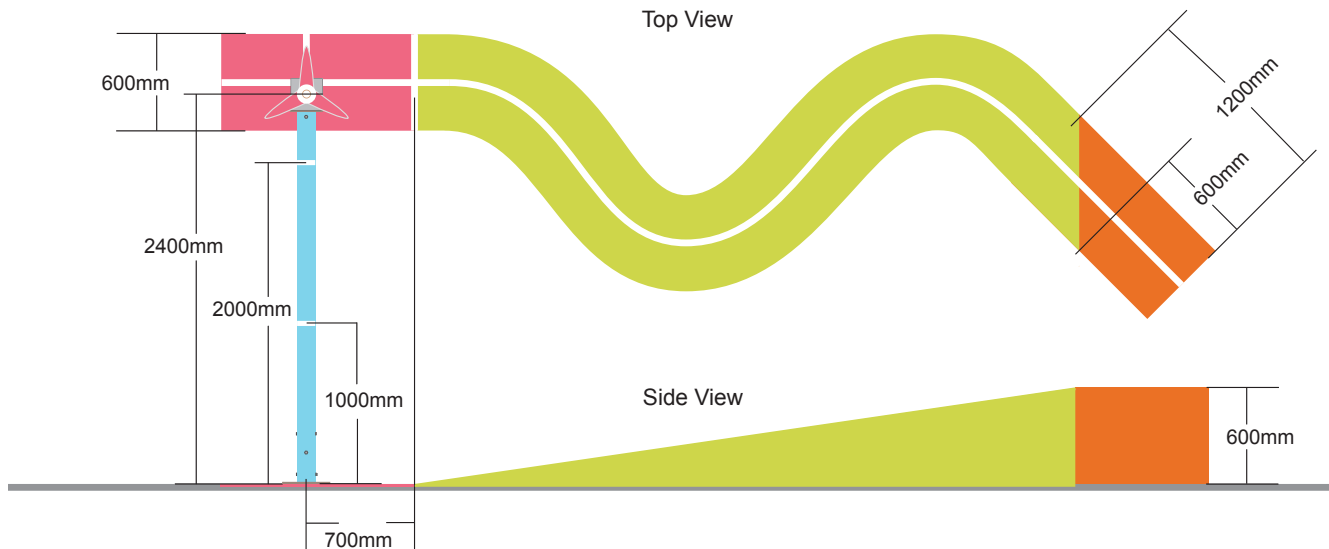

Figure 4: Down Hill
- 10.3.5 “Down Hill” is a part of Eco Robot’s traveling path having the width of 600 mm. Down Hill descends from 600 mm above the floor until the floor level. Down Hill is a wave curve seen from top view. (Figures 4)